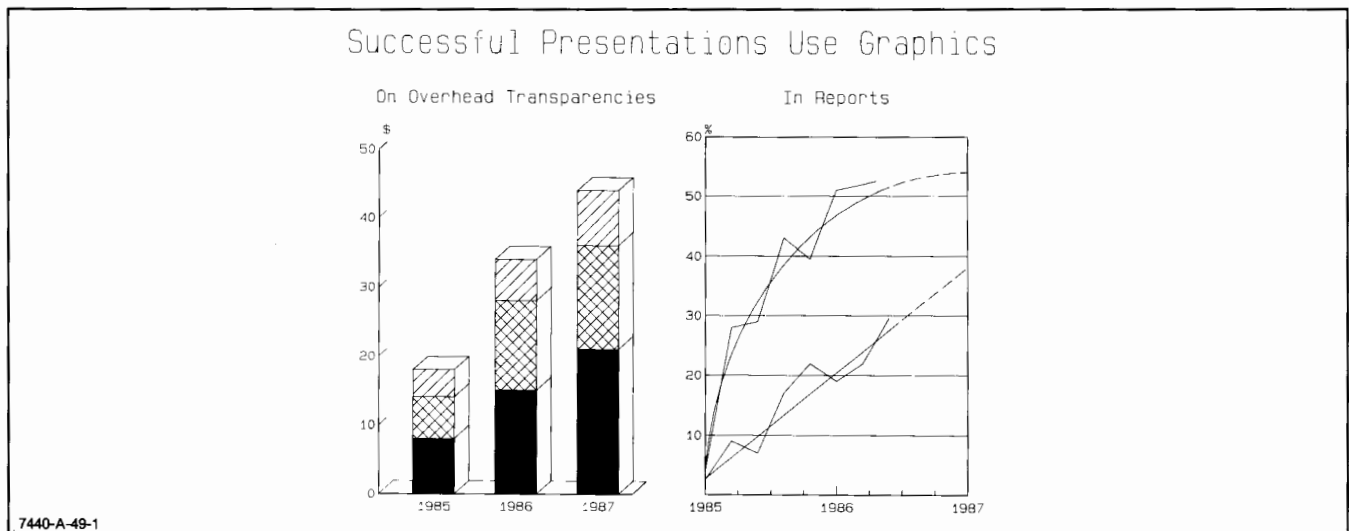

Figure 3-5. Demonstration Plot, GEC Installed
- f. If the plotter has a GEC installed, compare the demonstration plot to the plot in Figure 3-5. The two plots should be the same except that the plot in Figure 3-5 has been reduced in size.